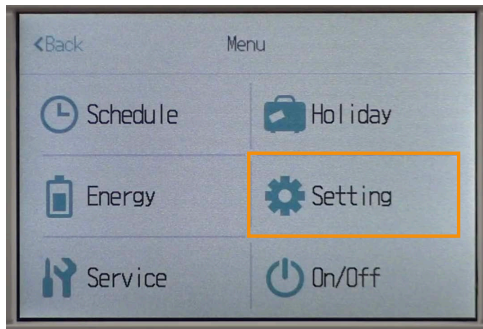

figure 4
- Return to the menu screen, select 'Setting' (figure 4).